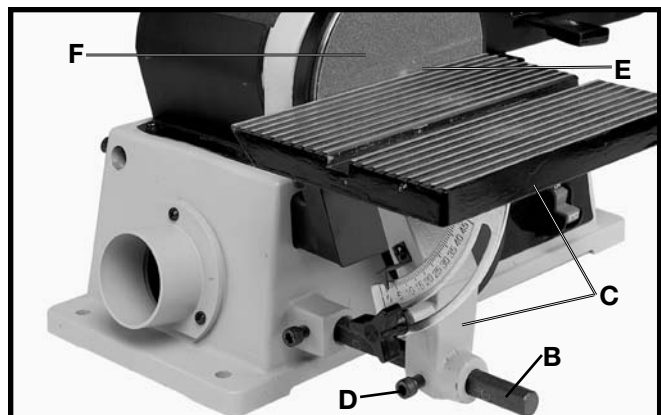

Fig. 12
2. Slide table assembly (C) Fig. 12, onto rod (B) as shown.
3. Thread 13/16" (20mm) long socket head screw (D) Fig. 12, into hole in table support bracket as shown. Align flat on rod (B) with screw (D) and tighten screw (D).
4. **⚠️ WARNING: TO AVOID TRAPPING THE WORK OR FINGERS BETWEEN THE TABLE AND SANDING DISC, THE TABLE EDGE (E) FIG. 12, SHOULD BE POSITIONED A MAXIMUM OF 1/16" AWAY FROM SANDING DISC (F). LOOSEN SCREW (D) AND ADJUST TABLE ACCORDINGLY.**